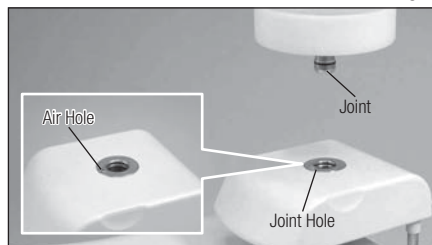

Fig. 6
- 3) Close the cap of the Irrigation Bottle, check the Air Hole is clean and insert the Joint into the Bottle Base Connector until it clicks into place. (Fig. 6)